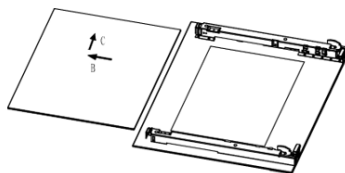

Fig.4
4. Take out middle glass. (Fig.4)